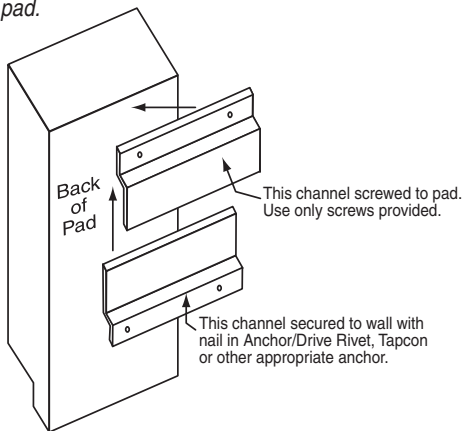

Figure 1
- ① Draw or strike a line on the wall between 7¼" and 9¼" up from the finished floor. The bottom of the pad will be 4" to 6" above finished floor using above measurements. Consult Draper's drawing or the Architect/GC to verify distance pads should be installed above finished floor.
- ② Line up the bottom Z-clip's lower edge with line on wall. Make sure this Z-clip is open to the top (see Fig. 1). Drill and anchor Z-clip to wall using appropriate anchors supplied by installer. Spacing and type of fasteners is dependent on the type of wall structure.
- ③ Measure up the wall from line made in step 1 the height of the wall pad (typically 6') minus 7¾" and mark another line parallel to the bottom line.
- ④ Align the bottom edge of the top Z-clip with the upper line and anchor as indicated in step 2.
- ⑤ On the back of the pad, mark a line 3" from the bottom. Make sure this Z-clip is open to the bottom as shown in figure 1.
- ⑥ Attach Z-clip to wood backer using only the factory supplied #10 x ½" wood screws. Use caution not to strip the wood backer when driving the screws, especially if installing with a drill or screw gun.
- ⑦ Attach top Z-clip by lining up top edge with an installer-scored line 3" below top of pad.
- ⑧ Attach top Z-clip as described in step 6.
- ⑨ Slide wall pad panel into place by mating the Z-clips.